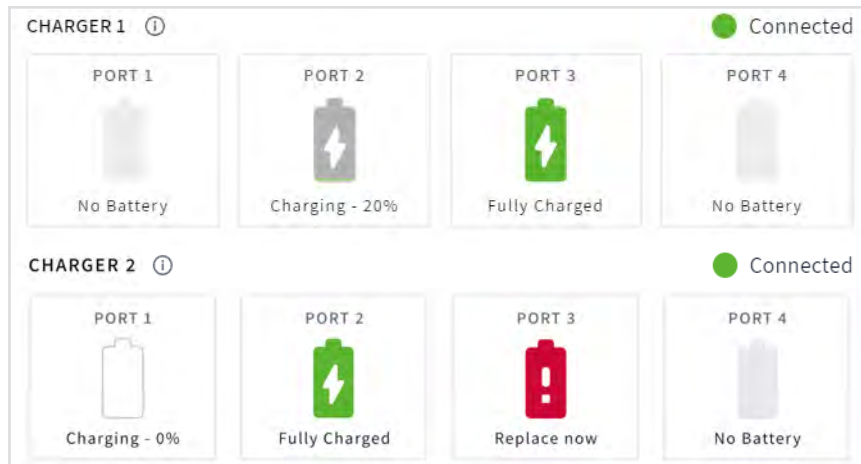

Fig. 1.9b
**Note:** The Base Station can support two AC70 Chargers. When the **Chargers** tile on the HOME screen is tapped, both chargers will be visible (if both are within Base Station range), see Fig. 1.9b. Also, when a battery has exhausted its life, the charger screen will prompt you to replace the battery. See the example shown in Fig. 1.9b (Charger 2 Port 3).